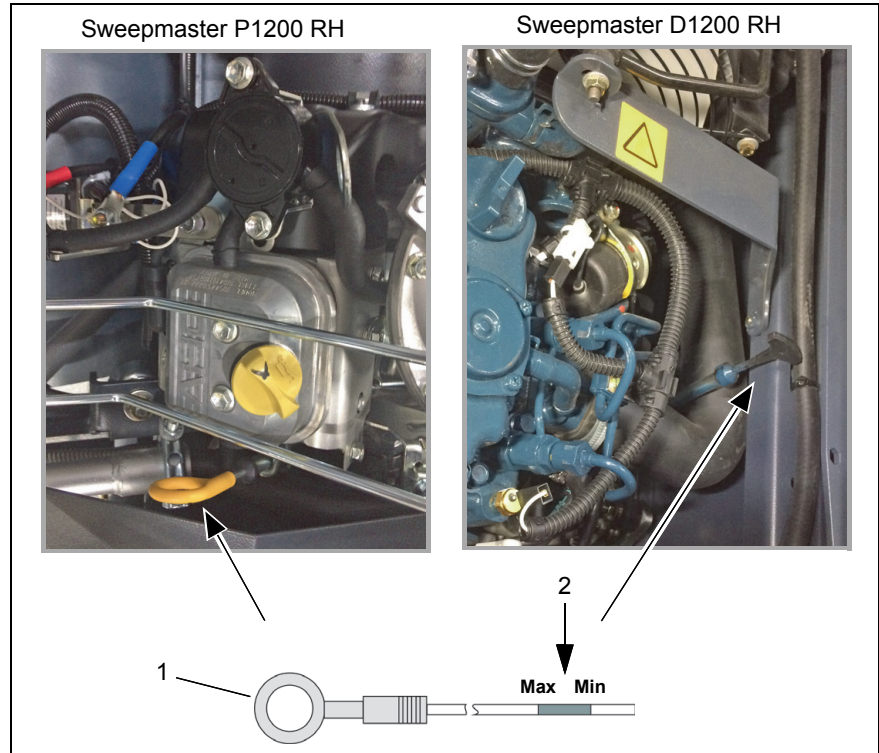

Fig.18
4. Pull plug (Fig. 18/1) with dipstick.
5. Pull dipstick(Fig. 18/1).
6. Wipe dipstick (Fig. 18/1) and push into opening until stop and pull it again.
7. Oil level has to be mark between minimum an maximum (Fig. 18/2), refill engine oil if required.
8. Re-insert dipstick(Fig. 18/1).